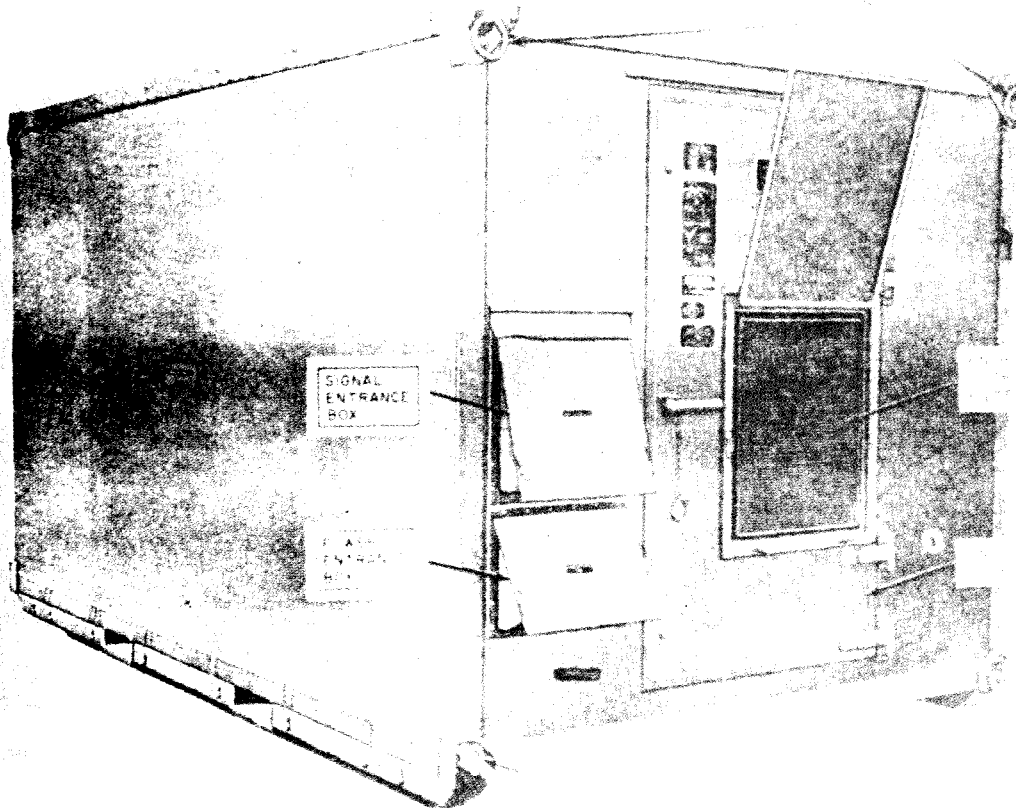
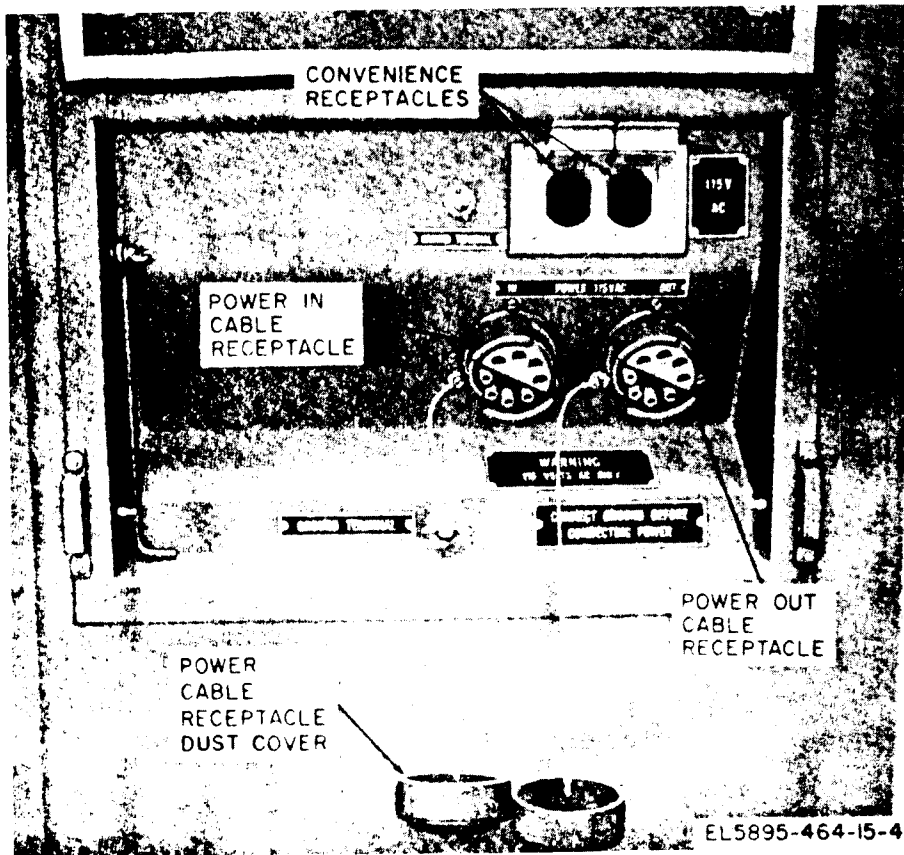

Figure 1-1. Operation Center, Communication AN M50-11A, rear, roadside view.
Figure 1-4. Power entrance box, exterior front view.
*a. Power and Signal Connections.* Watertight receptacles are provided in the power entrance box (fig. 1-4), on the AN/MSC-31A rear wall (fig. 1-1), for connection to an external power source. Alternating current (ac) power may be provided by a motor-generator set or from a central power source.
a. This manual describes Operations Center, Communications AN/MSC-31A (fig. 1-1 and 1-2). The manual includes instructions for installing, operating, and maintaining the AN/MSC-31A.
a. Operations Center, Communications AN/MSC-31A (fig. 1-1, 1-2, and 1-3) is an air-or land-transportable field communication operations office assemblage. It contains telephone switchboard, local telephone circuits, and provisions for the optional installation of radio equipment (para 4-6). Display board facilities are provided for a Signal Operations Officer to plan, engineer, and control an area-type communication system.
(2) *Entrance boxes.* The power and signal entrance boxes (fig. 1-1) are mounted in the exterior wall of the shelter. Each entrance box is equipped with folding side panels for weather protection and is secured with captive screw fasteners.
(a) The power entrance box (fig. 1-4) contains receptacles for connecting ac power to the shelter components. It also contains a duplex convenience outlet receptacle (115 volts ac) equipped with a spring-loaded watertight cover. Entrance to the rear of the power entrance box is provided on the interior rear wall when the power entrance panel is removed.
*a.* Loosen and lift the cover of the power entrance box (fig. 1-1).
*b. Connection to Motor-Generator Set.* If a motor-generator set is used to provide power to the AN/MSC-31A, connect power to the shelter as described in (1) and (2) below; otherwise, connect power as described in *c* below.
(1) Remove the cover from the IX POWER 115V AC receptacle in the power entrance box (fig. 1-4) and from the connector on one end of the power cable assembly. Connect the power cable assembly to the IN POWER 115V AC receptacle.
(2) If the motor generator set includes an output connector that is compatible with the connector on the power cable assembly, connect the power cable assembly to the generator set; otherwise, refer to the motor-generator set manual and connect the leads (white lead neutral) of the power cable stub to the appropriate output terminals of the motor-generator set. Connect the power cable stub to the power cable assembly.